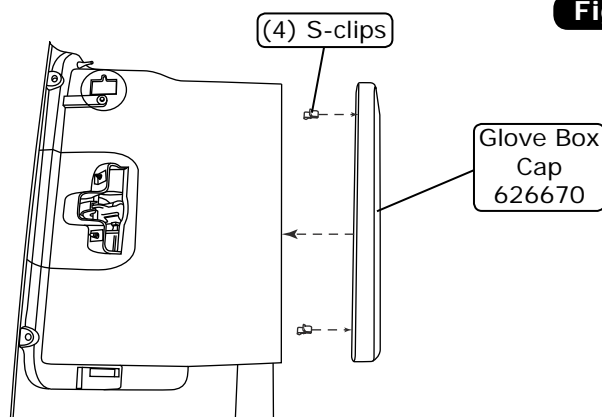

Figure 3
5. Install (4) S-clips onto the glove box cap, and install it onto the glove box as shown in Figure 3, below.